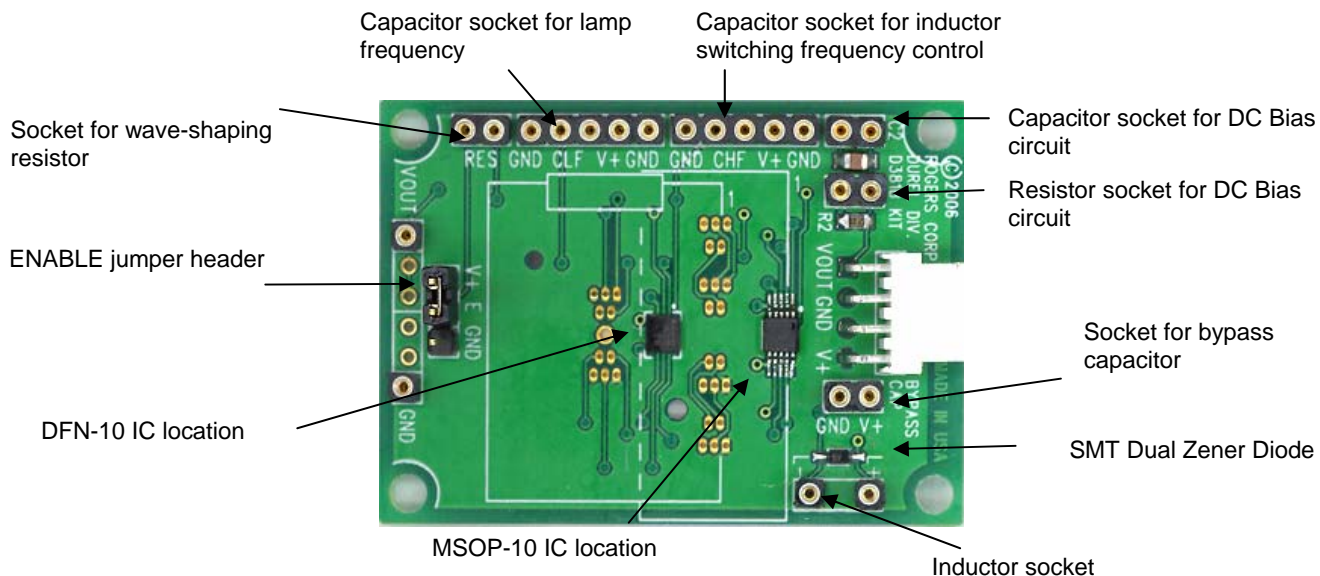

Figure 1: The D381B IC Designer's Kit Board
The Designer’s Kit Board (see Figure 1), which comes with a D381B IC already soldered to the board, is a useful tool for optimizing a D381B IC driver circuit for any application. Refer to the D381A IC datasheet as a guideline with sample circuits as a starting point of your design. Simply insert an appropriate value of inductor (L) and timing capacitors (CLF and CHF) into the labeled sockets, as shown in Figure 1, and connect your choice of wave-shaping resistor (R_{ES}) to complete your driving circuit. Additional sockets are provided in the Designer’s Kit Board for a bypass capacitor between V+ and ground (GND) to absorb electrical noise in the DC input.